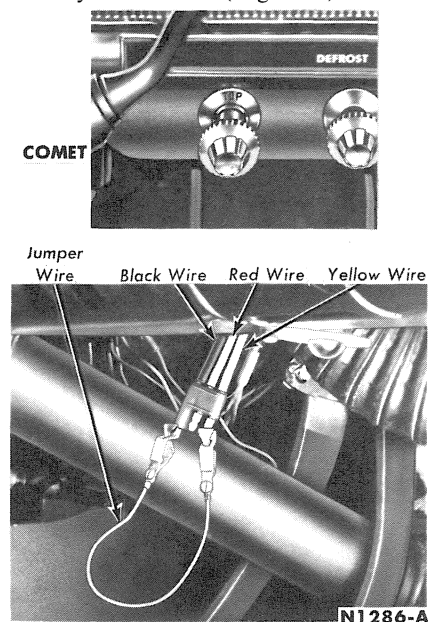

FIG. 4-6—Testing Switch Wiring
1. Connect one terminal of a test lamp to the black (feed) wire of the top control switch, and ground the other lead (Fig. 4-6). Figure 4-6 shows location of Falcon and Comet top control switch. Galaxie and Monterey similar location. If the
connect a jumper wire between the black (feed) wire and the red wire, and then between the black wire and the yellow wire (Fig. 4-6). If the